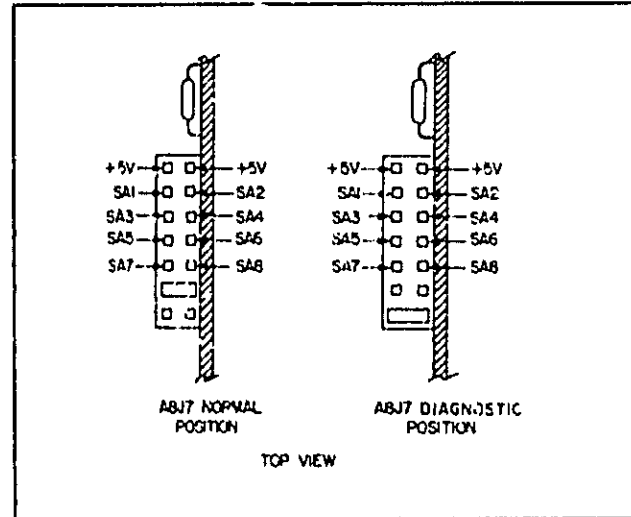

Figure 5-14. Diagnostic Jumper On A8J7
- c. A8W5 is a 2-pin jumper used to short A8J7 pins 15 and 16 together, which puts unit into diagnostic mode. A8J7 is the 16 pin test connector located on the HP-IB board. A8V15 is normally plugged onto pins 13 and 14. See Figure 5-14.